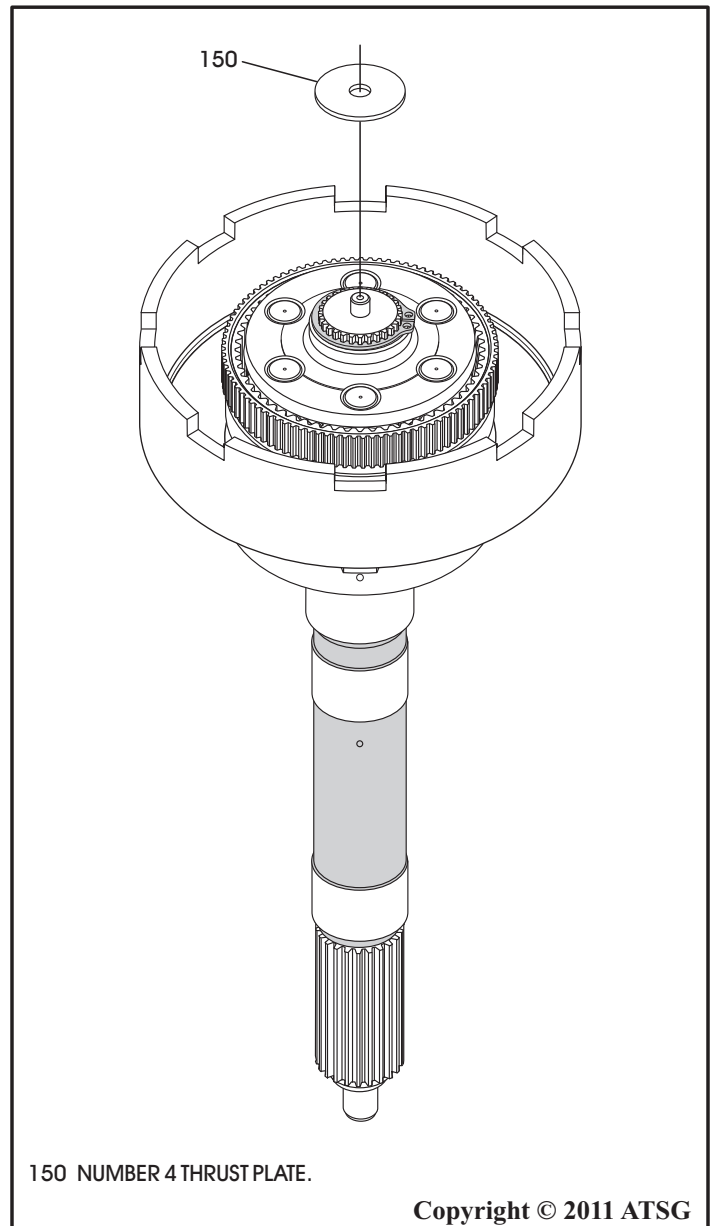

Figure 145
27. Install the number 4 thrust plate onto the front of intermediate shaft, as shown in Figure 145, and retain with Trans-Jel®.